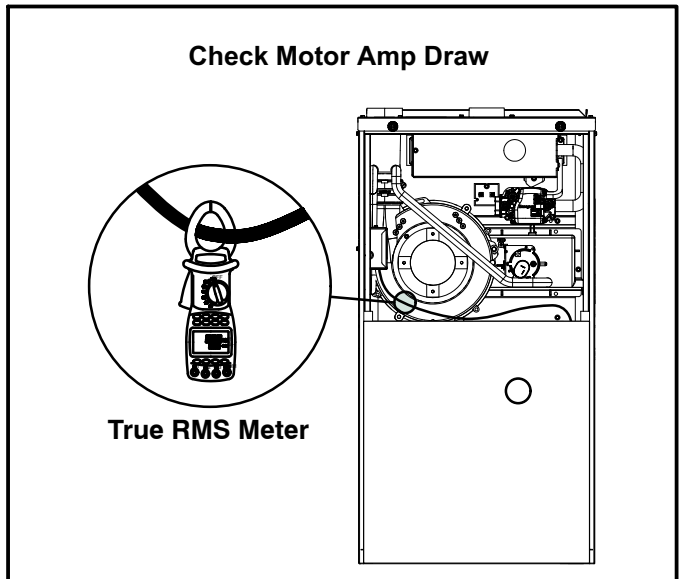

FIGURE 62
- 3 - Check amp-draw using a true RMS meter on the blower motor with blower access panel in place. See figure 62.